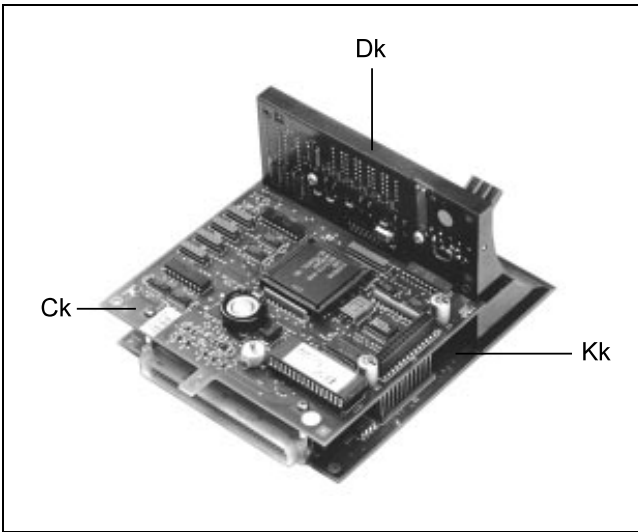

Fig. 14 Dismantled electronics unit (rear view)
4. Remove the electronic unit (see fig. 14).